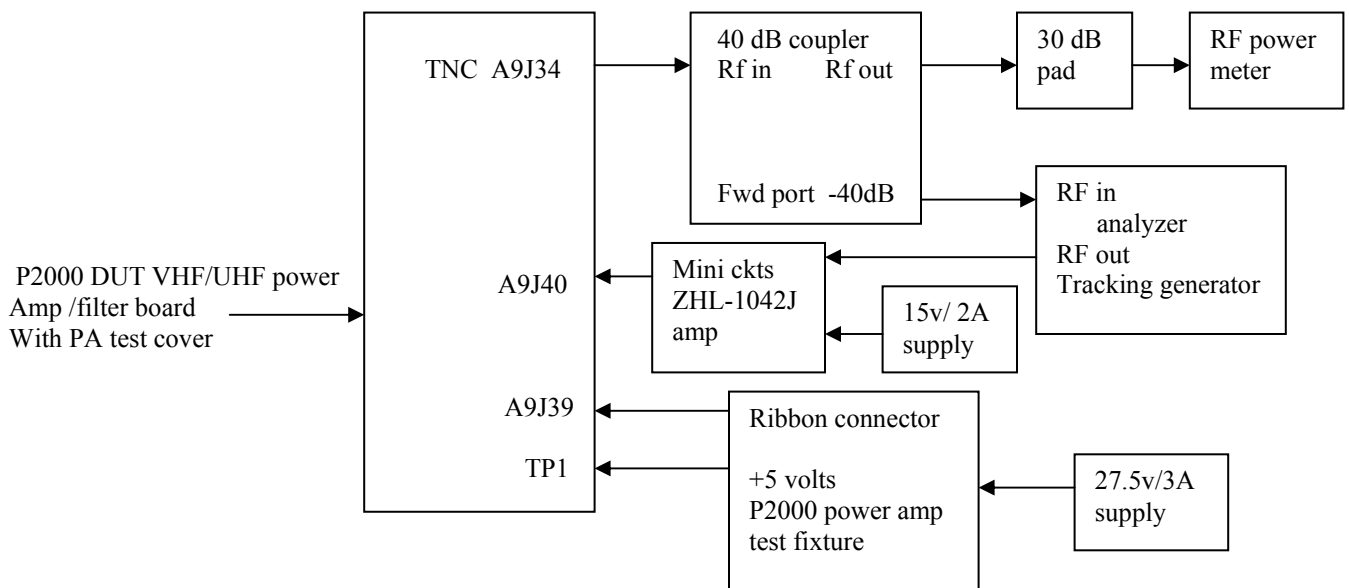

Figure 1.3 RF swept power alignment setup
| Figure 1.3 RF swept power alignment setup .....                                           | 4        |
- 1.3 Once calibrated connect either the Mini circuits amp RF out to the P2000 board under tests at A9J40 Using the 50 ohm BNC to MMCX cable. Connect the P2000 boards RF output at A9J34 to the input of the directional coupler with the TNC to BNC cable and connect the test box ribbon cable to the DUTs A9J39 connector as shown in figure 1.3 below.